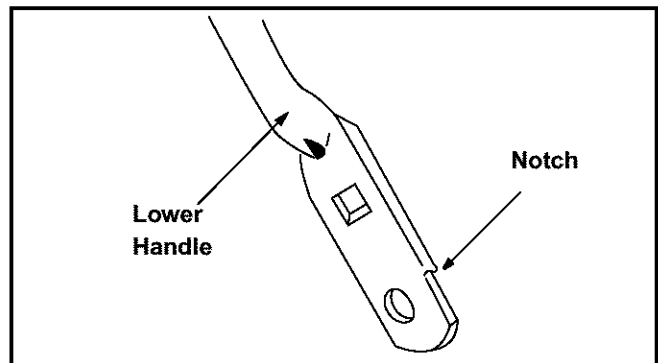

Figure 17
- Turn the lower handle around so the notch on the bottom of the lower handle is facing forward as shown in Figure 17. Reassemble, placing the bottom holes in the handle over the weld pins in the handle mounting bracket.